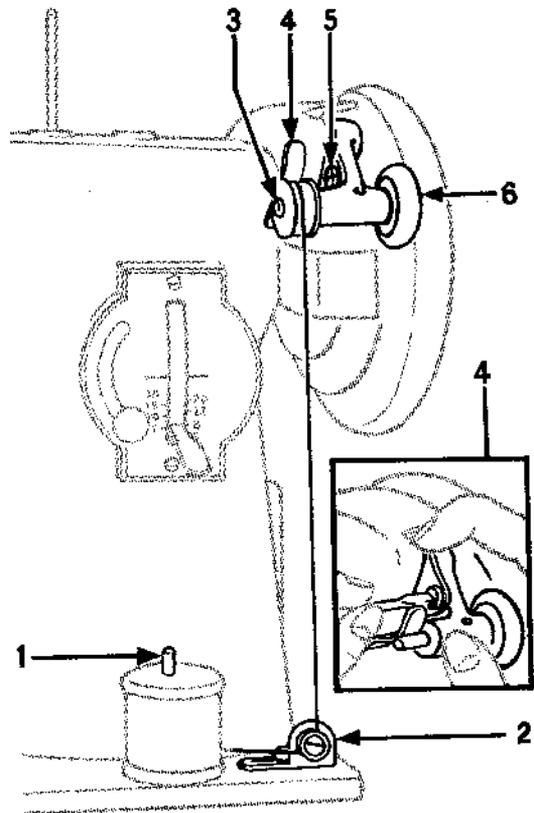

FIG. 8.
- Thread machine as shown in Fig. 8.
- Press down winder until latch (4) drops down and holds it. Then loosen screw (5).
- Push back upper end of slotted plate (see inset, Fig. 8) as far as it will go and at same time press winder against hand wheel.
- Tighten screw (5).
If the thread does not wind evenly on the bobbin, loosen the screw which holds the bobbin winder tension bracket (see 2, Fig. 8) on the machine bed and slide the bracket to the right or left as may be required, then tighten the screw.